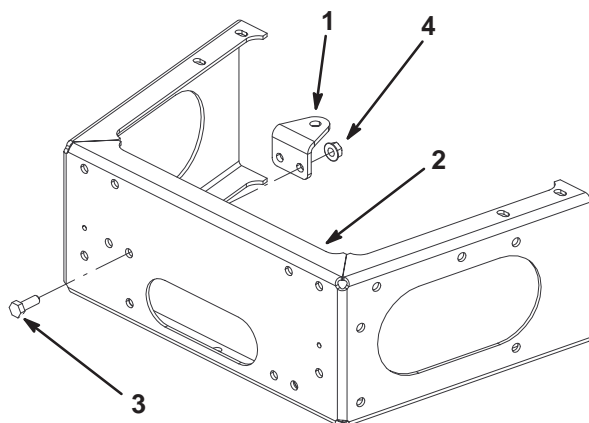

Figure 11
1. Install the spring bracket to the rear bumper with 2 bolts (5/16 x 7/8 inch) and 2 flange nuts (5/16 inch) (Fig. 11).